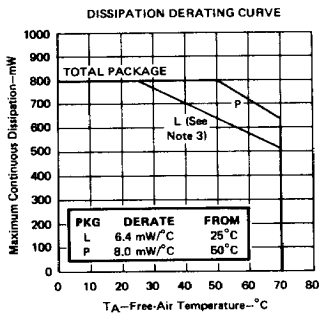

FIGURE 3
2. For operation above 25°C free-air temperature refer to Dissipation Derating Curve, Figure 3. This rating for the L package requires a heat sink that provides a thermal resistance from case to free-air,  $R_{\theta CA}$ , of not more than 95°C/W.